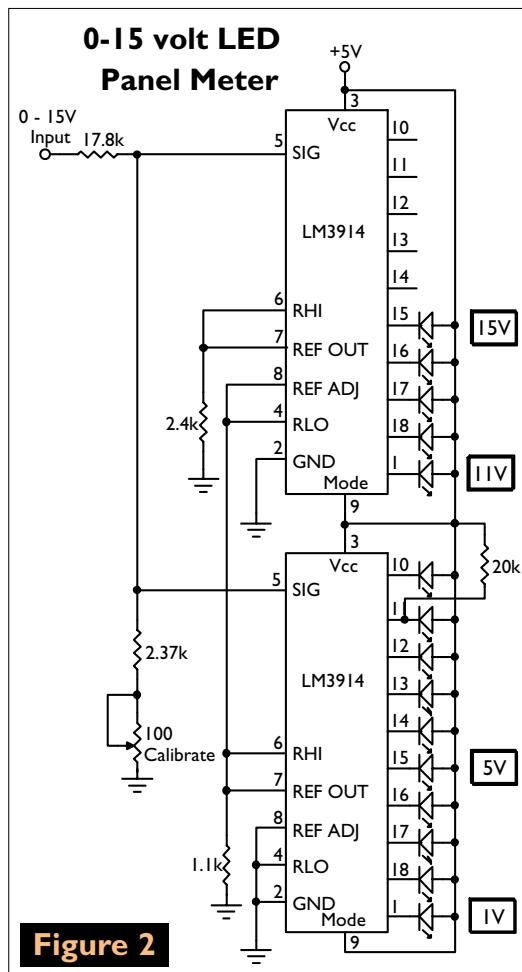

Figure 2
A. This is easily done using comparators; the basic circuit is shown in Figure 1. Each comparator is biased one step higher than the comparator under it. As the input voltage increases and exceeds the reference voltage on the comparator's inverting input, the output goes high and lights its respective LED. However, your request would require four of these chips plus 30 resistors. A better solution is the LM3914 Dot/Bar Display Driver. This IC contains 10 comparators with LED drivers, a buffer input op-amp, and a 1.2-volt reference. Only two ICs and four resistors are required to make a bargraph voltmeter that measures zero to 20 volts (Figure 2). Per your request, only 15 LEDs are shown, but it's easy enough to add the remaining five. The 100Ω pot is used to calibrate the voltmeter. If you don't have a suitable voltage reference for calibration, setting the pot to mid-range should provide 1% accuracy.